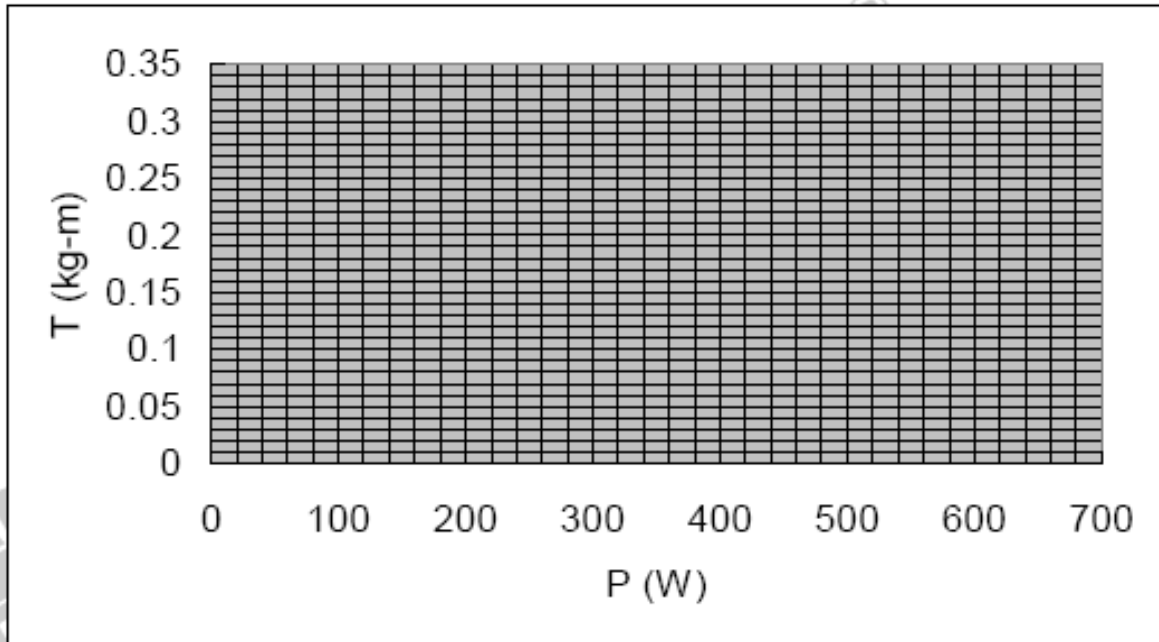

Fig. 12-6-3 The T vs P curve
9. Using the results of Table 12-6-1, plot the  $T$  vs  $P$  curve on the graph of Fig. 12-6-3.